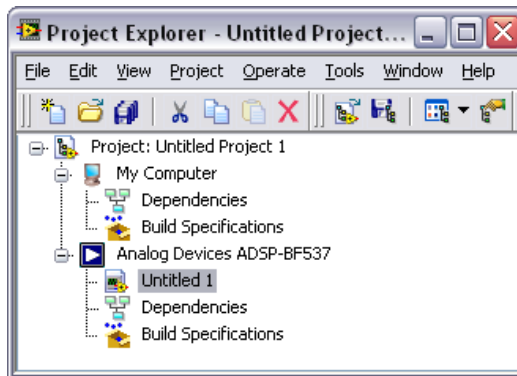

Figure 7. Adding a New VI to the Project
- Right-click the ADSP-BF537 target and select **New»VI** from the shortcut menu. The new, untitled VI appears in the **Project Explorer** window under the ADSP-BF537 target as shown in Figure 7.